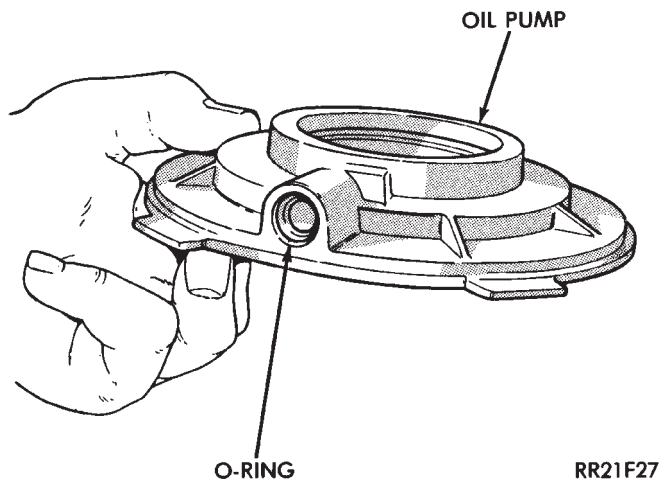

Fig. 14 Pick-up Tube O-ring Location
(13) Remove pick-up tube o-ring from oil pump (Fig. 14), if necessary. Do not disassemble the oil pump, it is not serviceable.